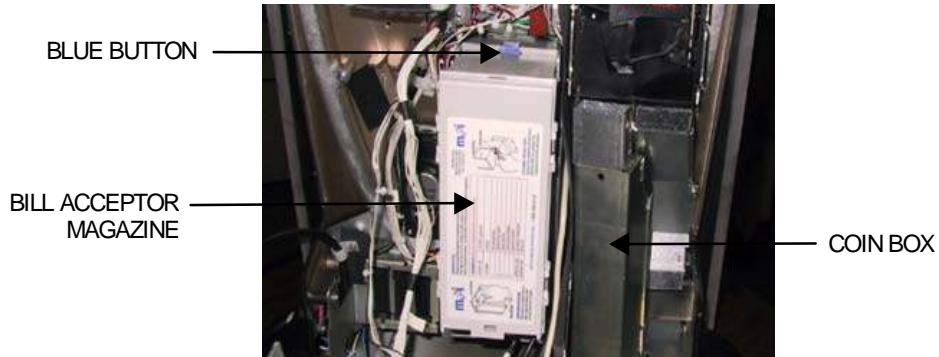

FIGURE 6 - CASH TOWER SECTION WITH BRACKET REMOVED
8. Unlock and remove the cash bracket, if applicable. Pull out the bill acceptor magazine by pushing in the blue button at the top of the acceptor and lifting the magazine up and out. See Figure 6.
9. Remove the coin box, if applicable, to access the bill acceptor screws, then remove the 4 screws fastening the bill acceptor to the game (one on each side and two on the bottom). Carefully remove the bill acceptor from the game. See Figures 6 and 7.